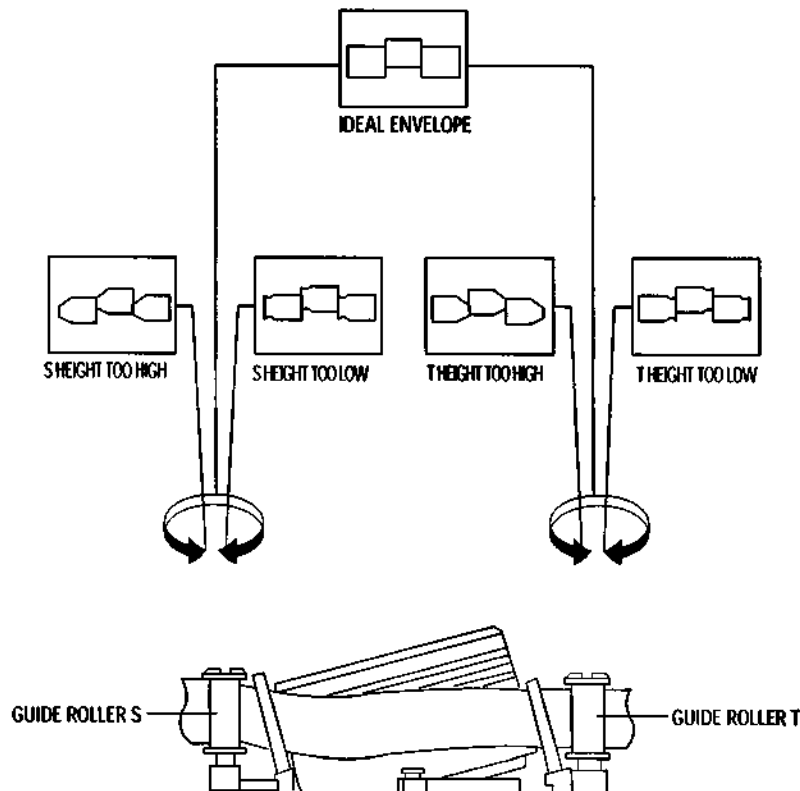

Fig. 2-8 Guide Roller S, T Height Adjustment
8) Turn the guide roller heads with a flat head (■) driver to obtain a flat video RF envelope as shown in Fig. 2-8.